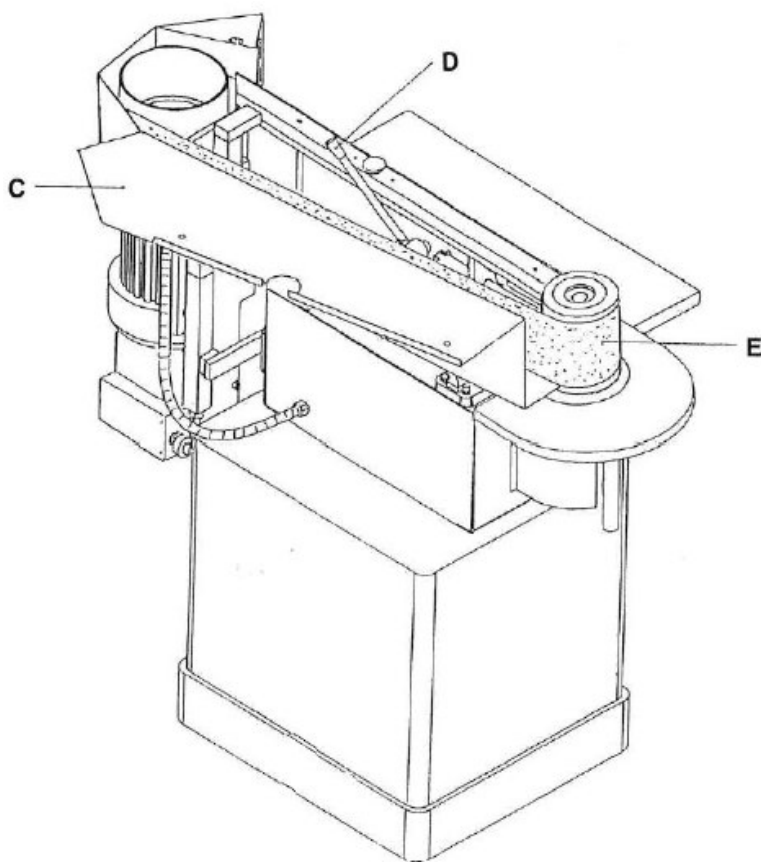

Fig.7-1: Assembly/disassembly of sanding belt
Step 1: Open the roller cover (Pos. C, Fig. 7-1) by removing the two screws on top of the
Step 2: Lift the handle (Item D, Fig. 7-1) to release the sanding belt (Item E, Fig. 7-1). Step 3: Then remove
Step 4: Then reinsert it by pushing back the handle bar (Pos. D, Fig. 7-1) to secure the